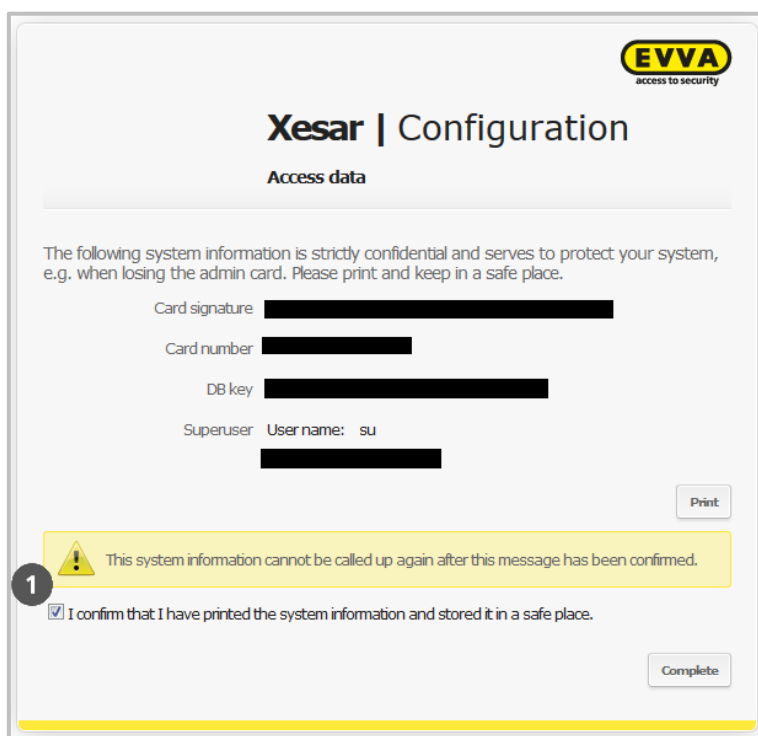

Figure 41: Configuration
Confirm the security prompt in the Xesar | Configuration ❶ application window (Figure 41: Configuration) and click **Complete**.